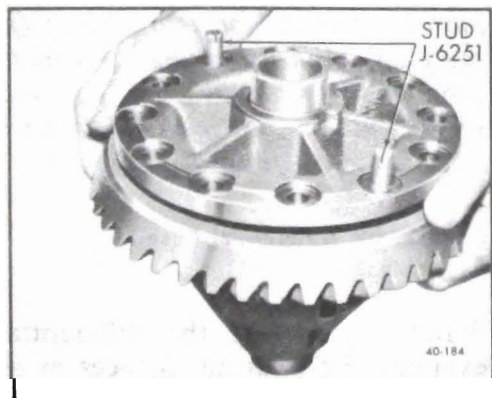

Figure 40-154 Installing Ring Gear on Differential Case
6. After making sure that mating surfaces of case and ring gear are clean and free of burrs, bolt ring gear to case using three Studs J-6251 to align parts. See Figure 40-154.